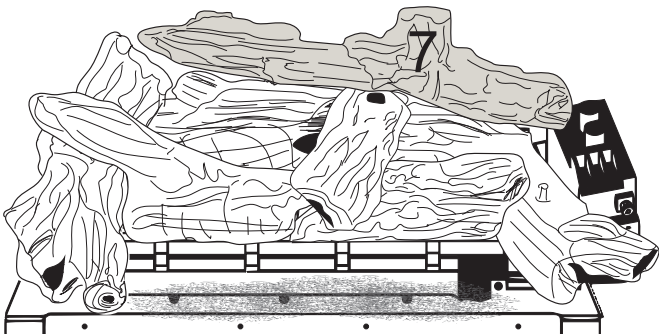

Figure 6.8 - Log #7 Placement
- Hold log #7 with the pointed end to the left and the flat end toward the bottom. Place log #7 by positioning the two pin locator holes on the bottom of the log over the pins on log #1 and #2. See Figure 6.8.